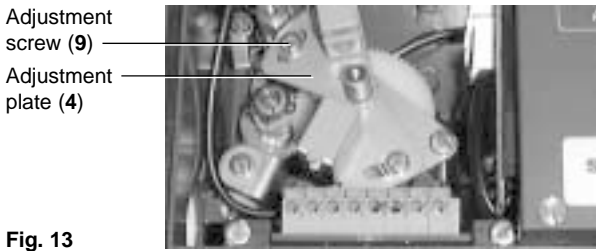

Fig. 13
Locate the adjustment plate (4) at its mid position and tighten the adjustment screws (9) (refer to Fig. 13).